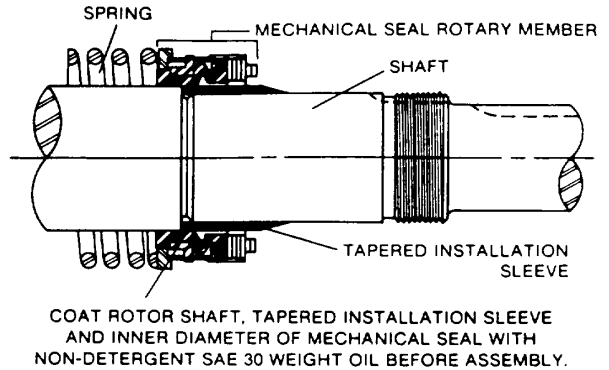

FIGURE 12.
3. Place tapered installation sleeve on shaft, refer to Figure 12. Sleeve is furnished with H, HL, K, KK, L, LQ and LL size replacement mechanical seals. Coat rotor shaft, tapered installation sleeve and inner diameter of mechanical seal rotary member with a generous amount of non-detergent SAE 30 weight oil. Petrolatum may be used but grease is not recommended.